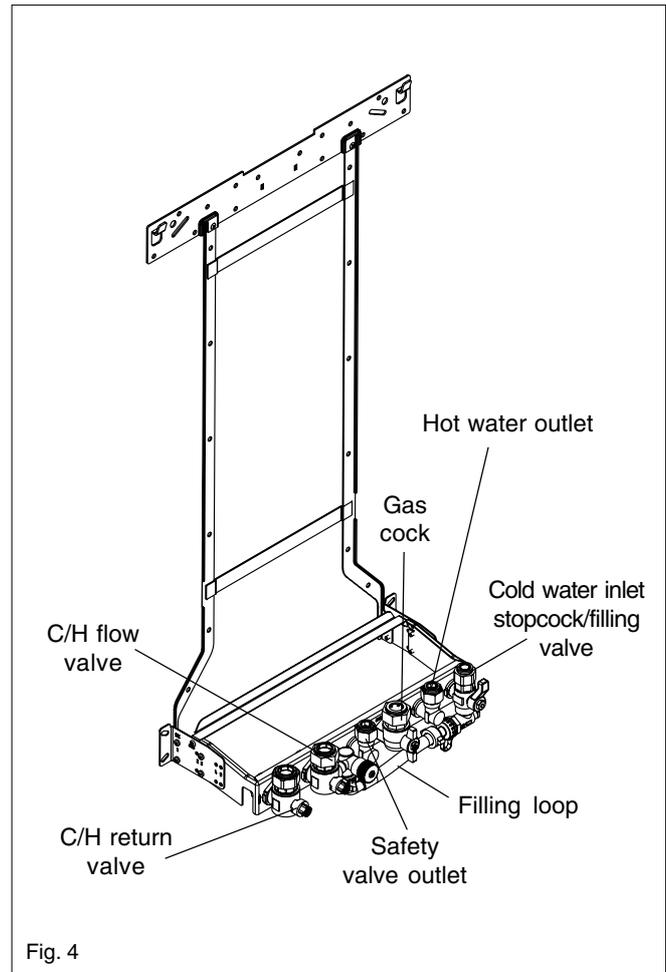

Fig. 4
**Info 2** water pressure (fig. 4)
### 3.1 HOW TO TOP-UP THE SYSTEM PRESSURE (fig. 4)